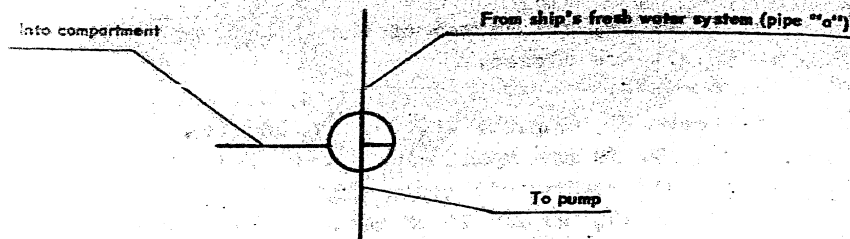

FIG. 3
3. Set cock 32 to such a position at which pipe "a" is connected with the pump (see Fig.3).